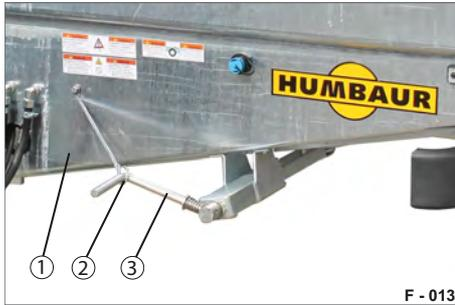
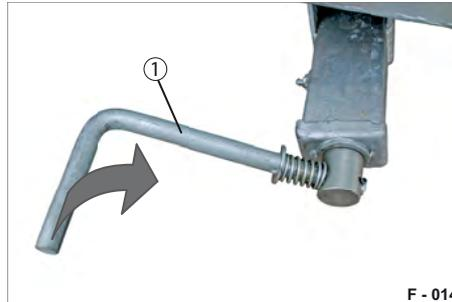

Fig. 12 Screw parking brake secured in drive position
Fig. 13 Applying the screw parking brake
- ▶ Release the hook (Fig. 12/2) from the crank (Fig. 13/1).
- ▶ Turn the crank (Fig. 13/1) in the clockwise direction until the brake is applied.